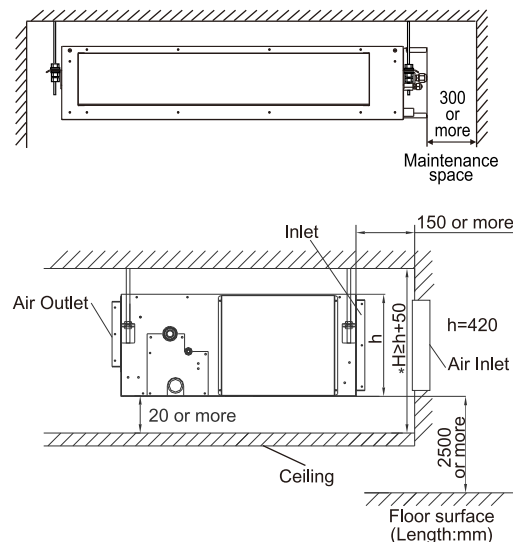

Fig. 3.1.1 (unit:mm)
- Sufficient clearance for maintenance and servicing is ensured.(See Fig.3.1.1)